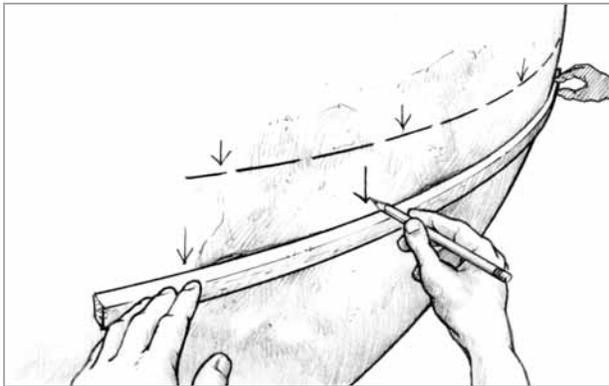

Figure 9 Use a long batten to locate the high and low areas and judge the amount of fairing compound required.
2. Determine and mark the locations for the guides. If you are fairing a curved surface like a hull, you may need to provide at least three parallel profile guides to describe the curve. Curves with a smaller radius and complex shapes may require more or closer spaced guides. Use a long batten to locate the high spots and determine how much fairing compound will be required to fill the low areas to a level above the bottom of the batten. Mark the high spots where the batten touches the surface (*Figure 9*).